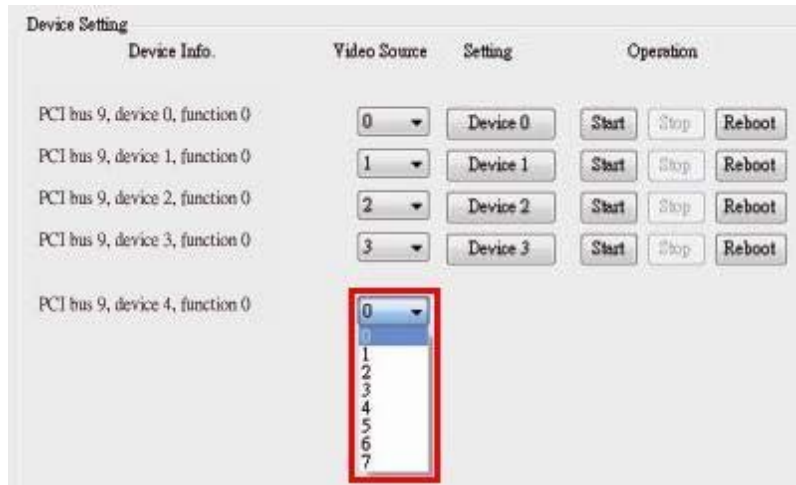

Figure 2-7: Select Transmitter Bus for HDC-304E
Step 6: This step is only required for the HDC-302E. Select the transmitter bus (2 or 3) (Figure 2-7). For example, when the Device0 button is selected to decode the encoded file, please select 2 from the device2 (transmitter bus) drop-down menu to display the video on HDMI display device via video output port. Please refer to the following table:
Step 7: This step is only required for the HDC-304E. Select the transmitter bus from 4 to 7 (Figure 2-7). For example, when the Device0 button is selected to decode the encoded file, please select 4 from the device4 (transmitter bus) drop-down menu to display the video on HDMI display device by output kit. Please refer to the following table: